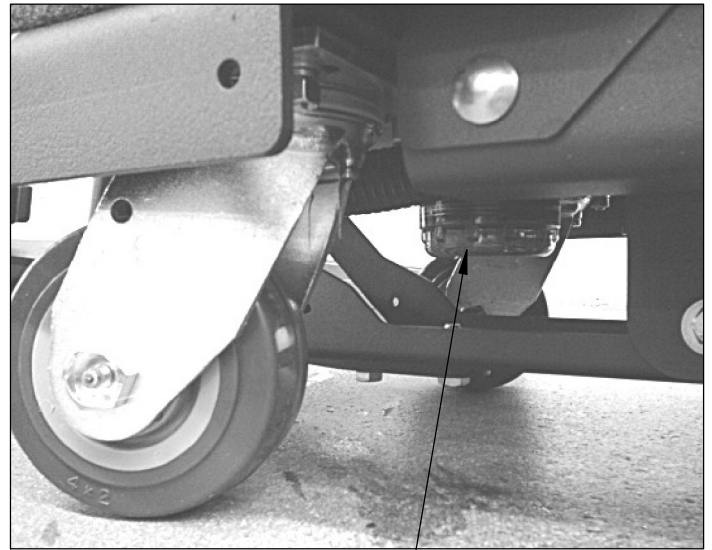

FIGURE 35.
1. THE SOLUTION SYSTEM HAS A "INLINE FILTER" (A) TO FILTER OUT CLEANING SOLUTION PRIOR TO SCRUBBING. (SEE FIGURE 35.)